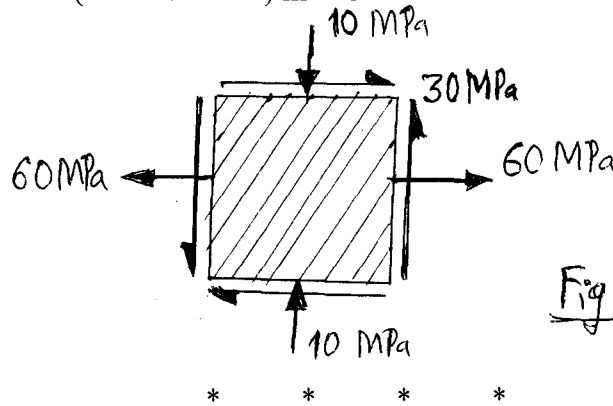

Fig. 7
Q.6 For the state of plane stress shown in fig. 7, determine: (10)